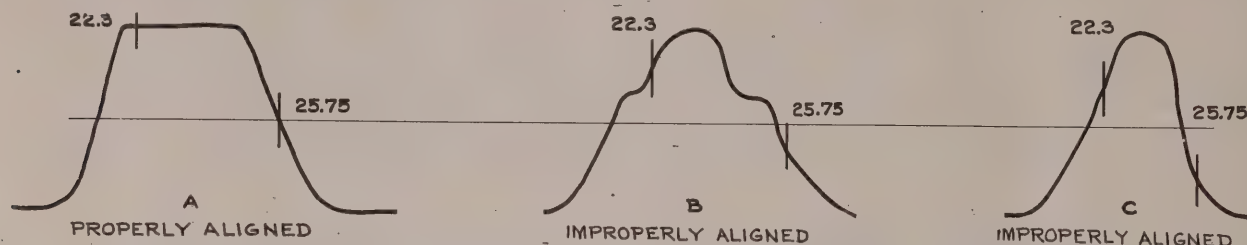

FIG. 5 PICTURE IF RESPONSE - STAGGER TUNED
24. Compare the pattern with that shown in the manufacturer's alignment instructions. See Fig. 5. If the system has been properly aligned, the pattern should resemble that of Fig. 5 "A".
25. Turn the SIGNAL SELECTOR switch to the UNMOD. RF position and set the Logging scale to the point recorded for 22.3 MC. A marker signal should appear on the pattern as shown in Fig. 5.